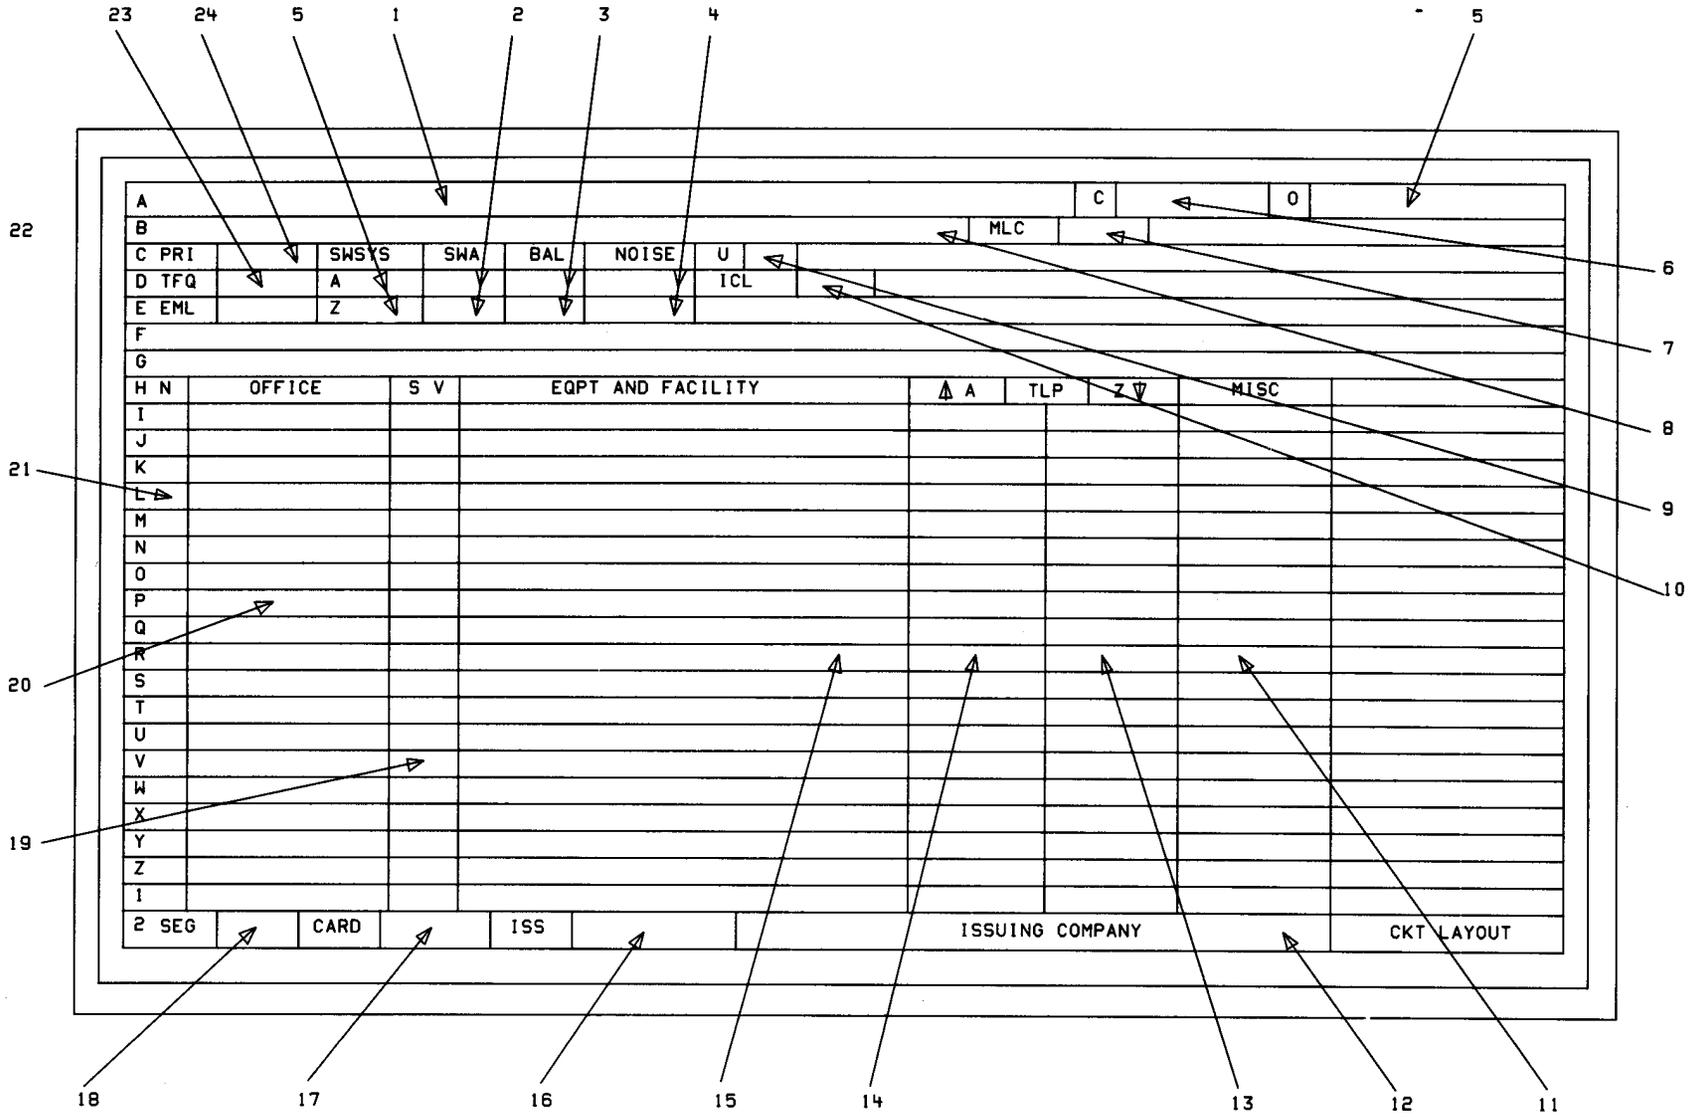

Fig. 5-2—Typical CLR
5.17 For each special service circuit there is a circuit layout record (CLR), which contains essential information about that circuit. This information is normally abbreviated by use of the common language equipment code (see Section 795-YYY-ZZZ). Since there are many different CLR formats used in the Bell System, Fig. 5-2 shows only a typical CLR card. The complete CLR may consist of one or more cards.
5.18 The information given on each CLR is similar regardless of the format used. The list below shows the information that should be on the CLR and the numbers to the left correspond to the location on the typical CLR in Fig. 5-2.